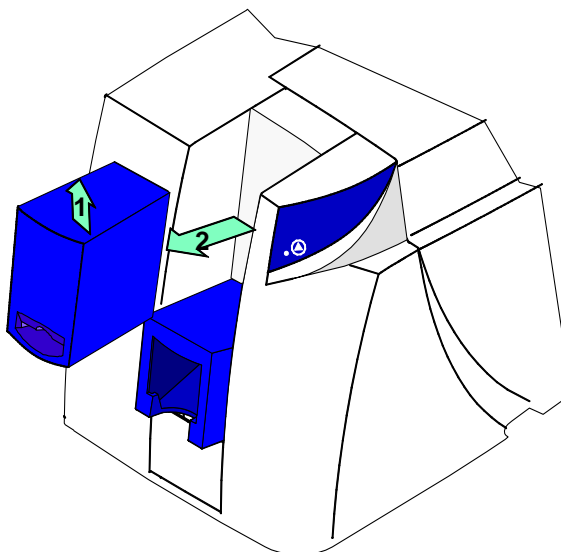

Figure 2-1: Remove the card cartridge
- 1 Pull up on the lower edge of the card cartridge (step 1 in Figure 2-1). Lift the card cartridge up and out of the printer (step 2 in Figure 2-1).